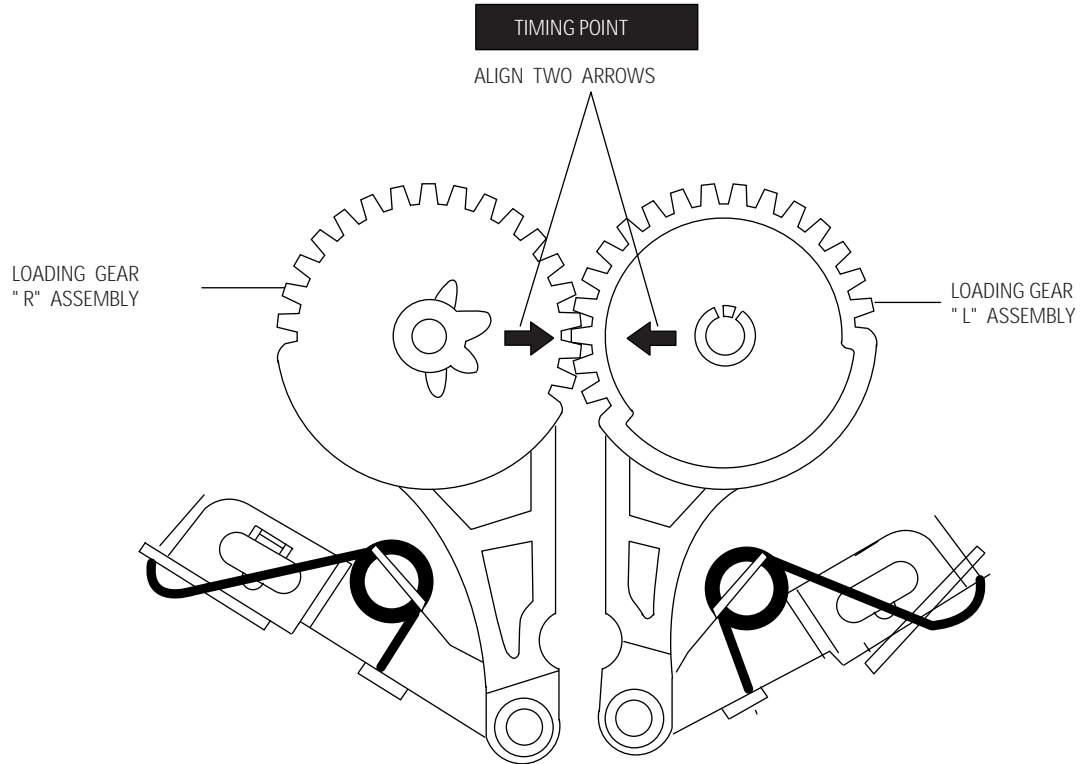

Fig. 4-51 Assembly Loading Gear "L", "R"
1. When reinstalling, be sure to align 2 arrow as shown in Fig. 4-51. (Refer to timing point)
2. Remove the Slide "S", "T" from the Loading "L", "R" Gear Ass'y. (Refer to Fig. 4-51)